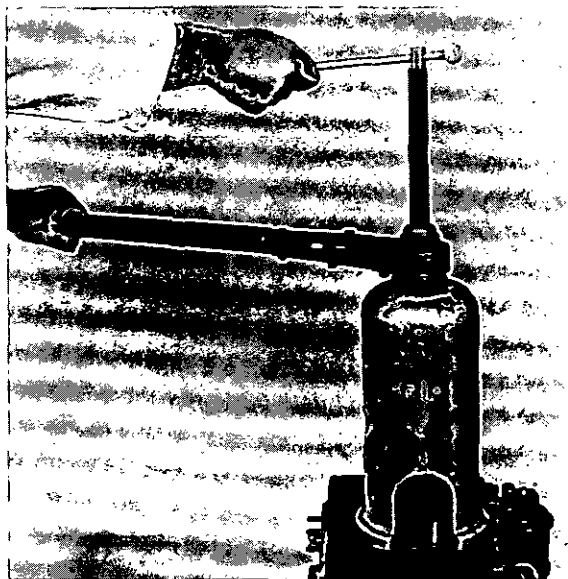

Fig. E.1
4. Press or draw liners out through top of cylinder block (Fig. E.1) ensuring no damage is done to parent bores (cast iron production liners are an interference fit and should be removed with a heavy duty press).